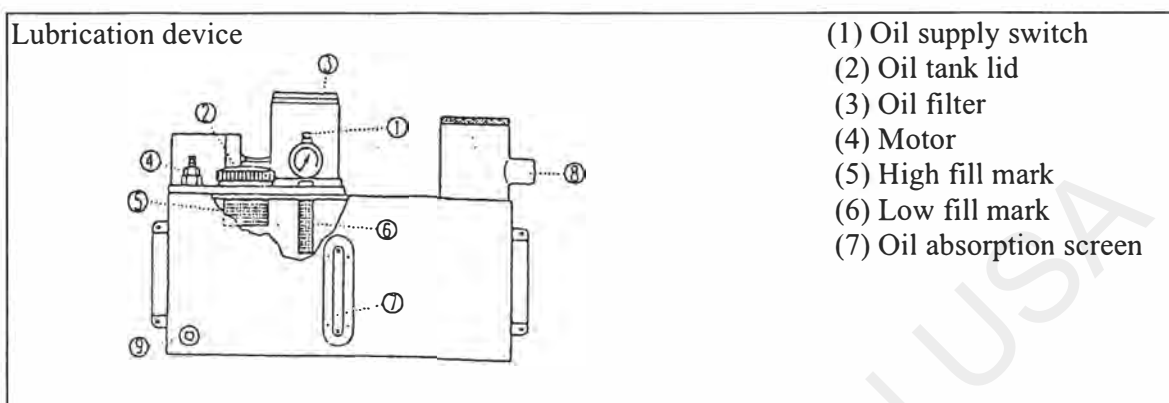

Fig 5-1
5.1.5.5 Adjustment of the discharged amount (as shown in Fig. 5-1). Loosen the locking bolt, set to the desired number graduation (about setting at 4~5 kg/cm²).